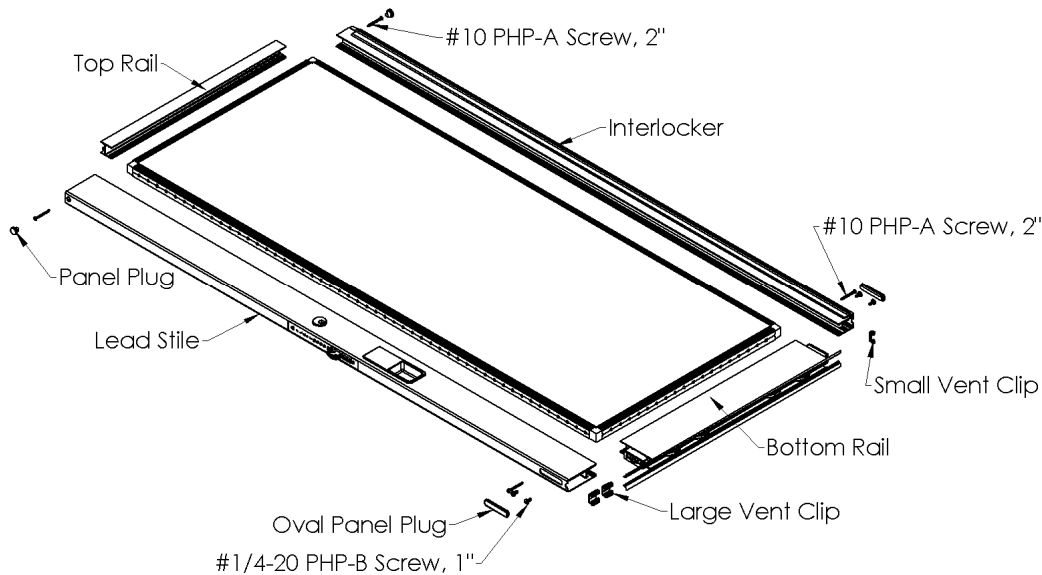

Figure 2:
5. Apply a bead of sealant that is compatible with the insulated glass seal to all four exterior corners as shown in Figure 2, Detail A.
5. Secure the stiles to the rails with (4) #10 x 2" pan head screws (Figures 2). Add wax to the ends of all fasteners to reduce the drive torque required for installation.
6. Install (2) ¼-20 UNC x ½" long pan head screws to bottom of interlocker stile or lead stile. Screws attached vertical rails to Roller Housing (Figure 2).